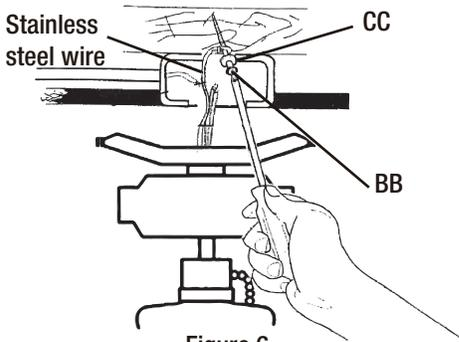

Figure 6
- An additional safety support is provided to prevent the fan from falling. Secure the stainless steel wire to the ceiling joist with screw and washer (BB & CC) provided, illustrated in Figure 6.